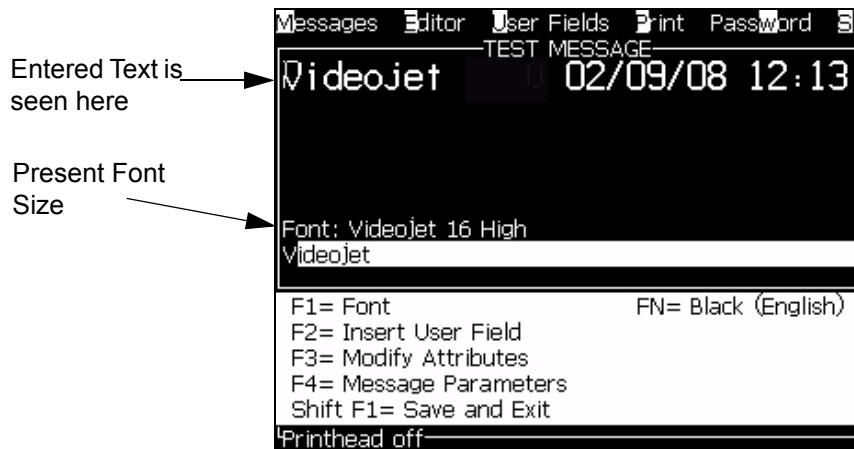

Figure 5-6: Create New Message
- 4 Press the *Enter* key. The Message Editor screen appears (see Figure 5-6 on page 5-20).